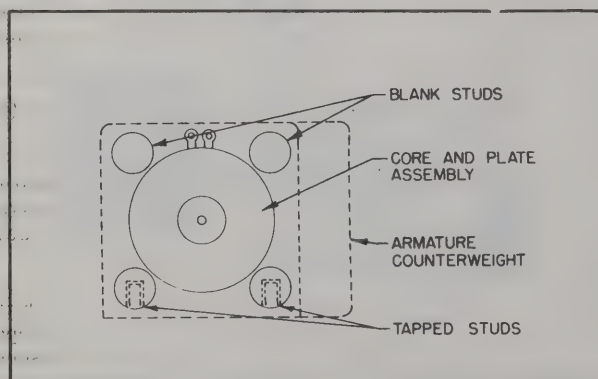
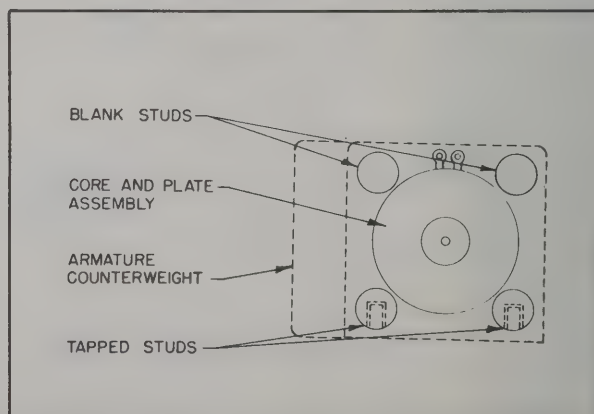

Figure 9-6. Assembly Voltage Amplifier
Figure 9-7. Assembly Frequency Amplifier
a. Place a small amount of varnish, Schenectady ST 6, or equivalent, on the core and plate assembly (23). Allow the varnish to become tacky.
b. Install the coil assembly (22) on the core and plate assembly (23). On both amplifiers, the blue and white (P-W) terminals must be closest to the core and plate assembly (23). The terminals should be perpendicular to one side of the core and plate assembly.
c. Install center plate (21) on core and plate assembly. Make certain center plate fits square and the mounting holes align with the holes in plate and core assembly. The finished side of the center plate must be outward.
d. Place assembled unit on a flat surface with the plate of the plate and core assembly forward. Leads must be positioned as shown in figure 9-6 for the voltage amplifier and figure 9-7 for the frequency amplifier.
e. Install the studs (19 and 20, figure 4-4) as shown in figures 9-6 and 9-7.
g. Position armature assembly (12) on plate and core assembly (23) so that counterweight end is positioned as shown in figure 9-6 for voltage amplifier and figure 9-7 for frequency amplifier. Attach with two collar spacers (fig. 4-4), fulcrum spring (17) and two screws (13) at counterweight end.
h. Stand assembly up so that it rests on armature assembly. Install rod and contact assembly (8) in opening in center of core and plate assembly (23).
i. Install the carbon pile tube (7) in the radiator (6) and position the carbon pile tube on the center plate (21) so that it is supported by the end of the core of the plate and core assembly (23). Place the radiator spacer (4) on the two top studs (18) protruding beyond the radiator (6) so that straight side of radiator spacer (4) is toward the carbon pile tube (7). Radiator spacer prevents radiator from shorting out on contact plate.
j. Without touching with the fingers, slide a new carbon pile (5) out of its glass container and onto a clean, smooth 1/8-inch rod or equivalent tool. Gently shake the rod to separate the pile discs and inspect for broken discs. Insert the rod into the carbon pile tube (7) until the rod touches the contact on the end of the rod and contact assembly (8). Tip the unit and rod to allow the discs to slide into the carbon pile tube. Withdraw the rod and gently tap the assembly to insure that all discs are level.
k. Assemble the contact and plate assembly (1) to the radiator studs (18) using four nuts (2) and lock washers (3). The contact protruding from the contact and plate assembly must be toward the same side as the armature counterweight (12). Ref. figure 9-6 or 9-7.